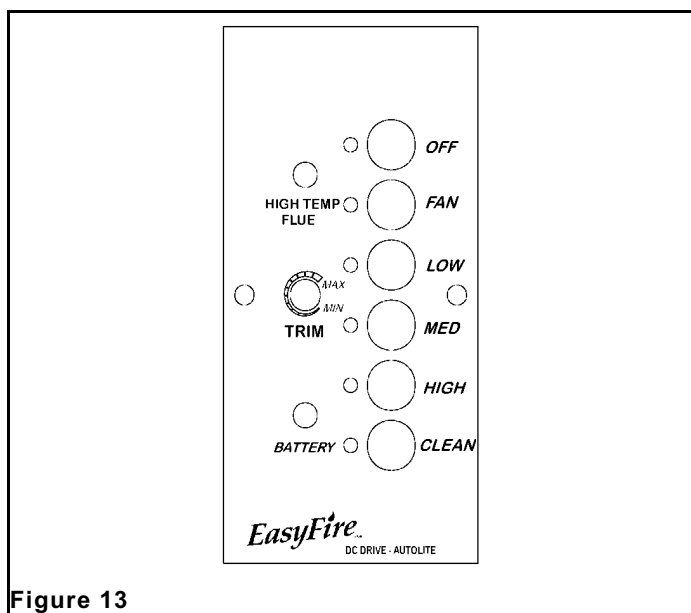

Figure 13
- C. In the **MEDIUM** position the EASYFIRE will be feeding approximately three (3) pounds of pellets per hour and the flame will fluctuate between 3" and 8" of fire.
3. Starting the Stove: Push a Heat Range button (Low or Medium is best for start up) (Figure 13) and turn the thermostat up to "Call for heat". The stove fan will begin to operate along with the ignitor cycle. After about a minute the pellets will begin to fall in the burn pot. After five minutes there will be a fire in the burn pot and the stove will begin to heat up. When the stove reaches start up operating temperature it will then switch to the control panel setting and begin it's automatic operation cycle.